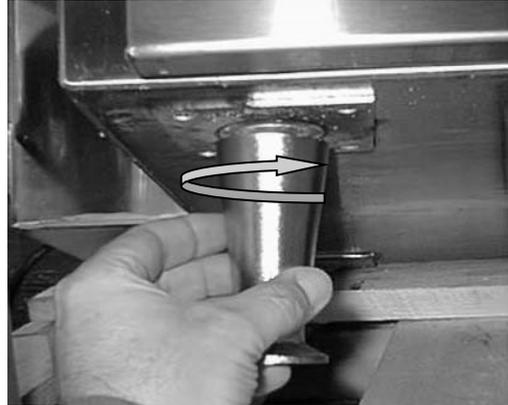

fig. 2
- The AUTOFRY is shipped with (4) 1/2-13 bolts installed in leg plates. Remove the bolts before installing the legs. To remove the shipping bolts, tilt the unit back while still on its pallet and loosen by turning the bolt counterclockwise.
- Install two of the adjustable legs by rotating them clockwise to hand tight in the front two leg plates (fig. 2)